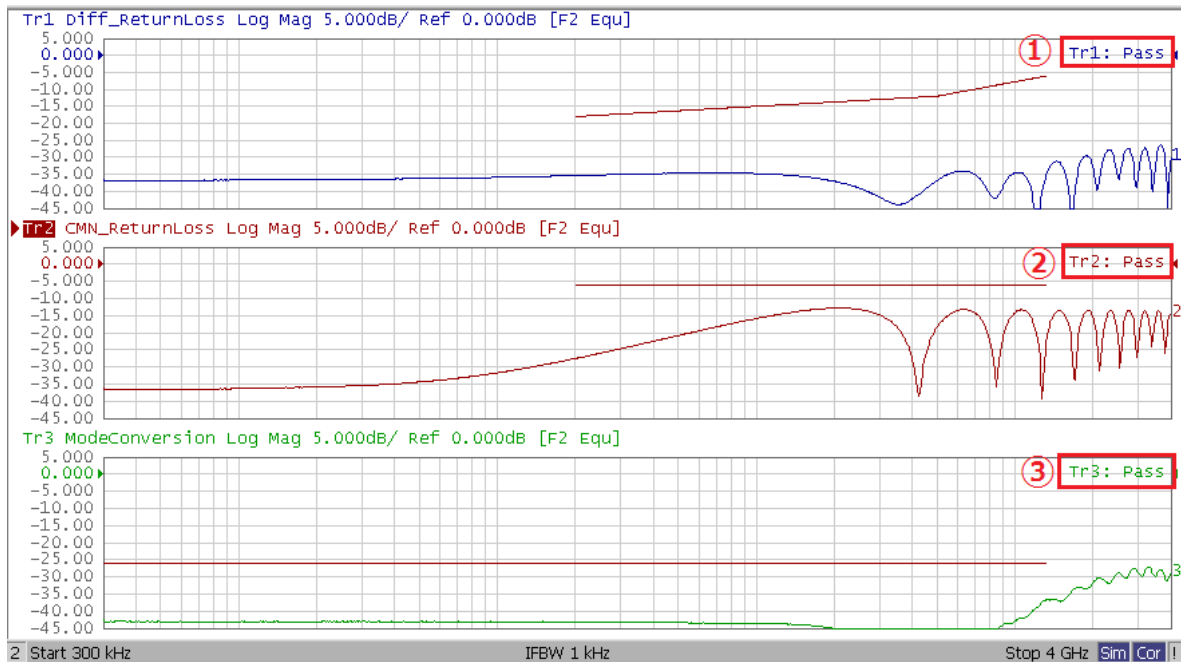

Figure 5-1 Differential Return Loss, Common-Mode Return Loss and Mode Conversion Limits (HS-TX) Example
8. Read the pass/fail sign on the trace (item 1 in Figure 5-1).
8. Read the pass/fail sign on the trace (item 2 in Figure 5-1).
8. Read the pass/fail sign on the trace (item 3 in Figure 5-1).